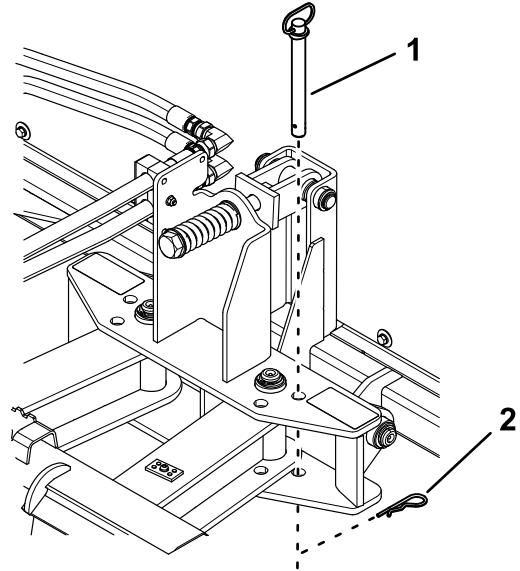

Figure 6
4. Remove the hairpin cotter from the hitch pin and remove the hitch pin (Figure 6).
6. Install the hitch pin and hairpin cotter (Figure 6).